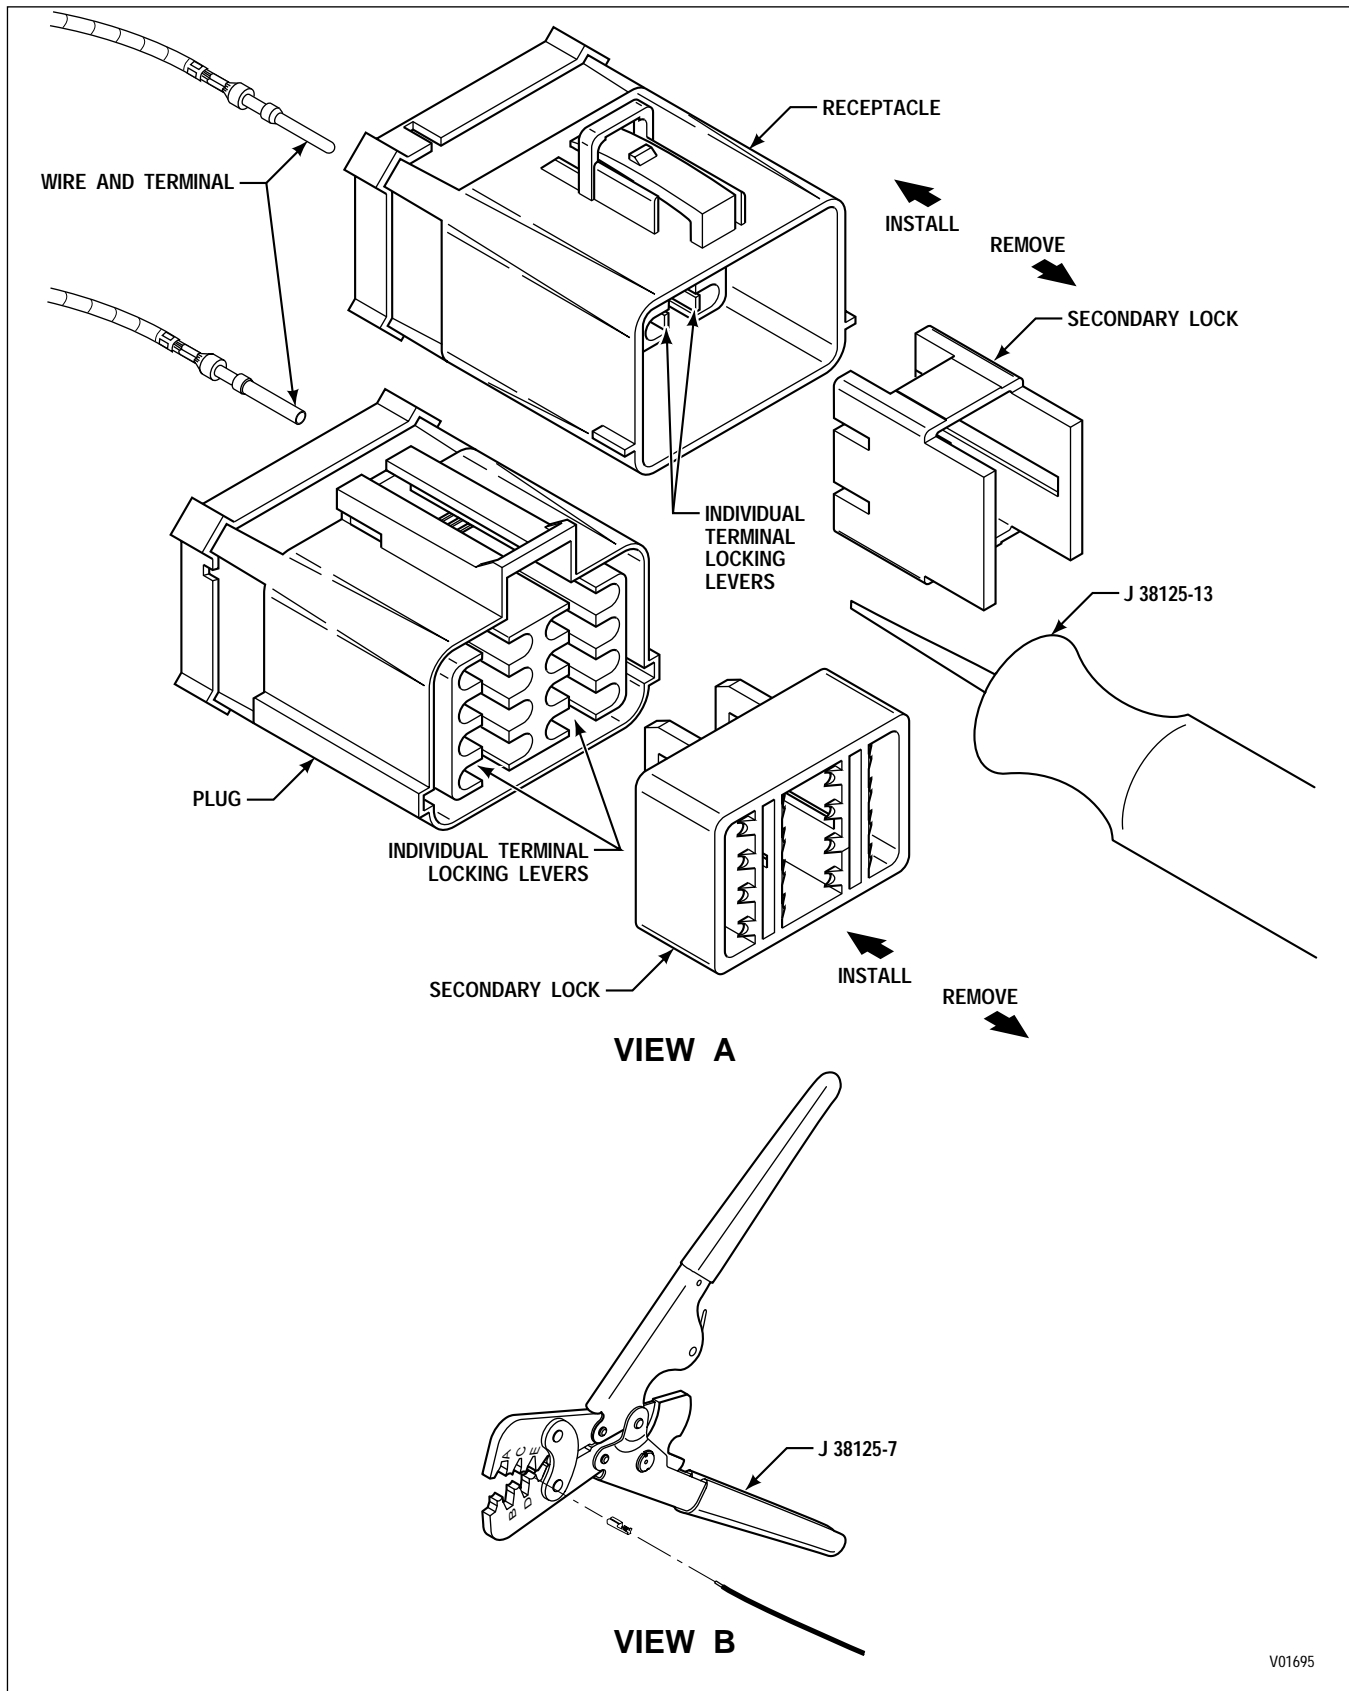

Figure E-14. EPC Connectors (Ford 16-Way Bulkhead)
#### B. Terminal Removal (refer to Figure E-14, View A)
2. Place the core crimp portion of the terminal on the bed of the designated crimping anvil and squeeze crimper enough to hold terminal from dropping (Figure E-14, View B).